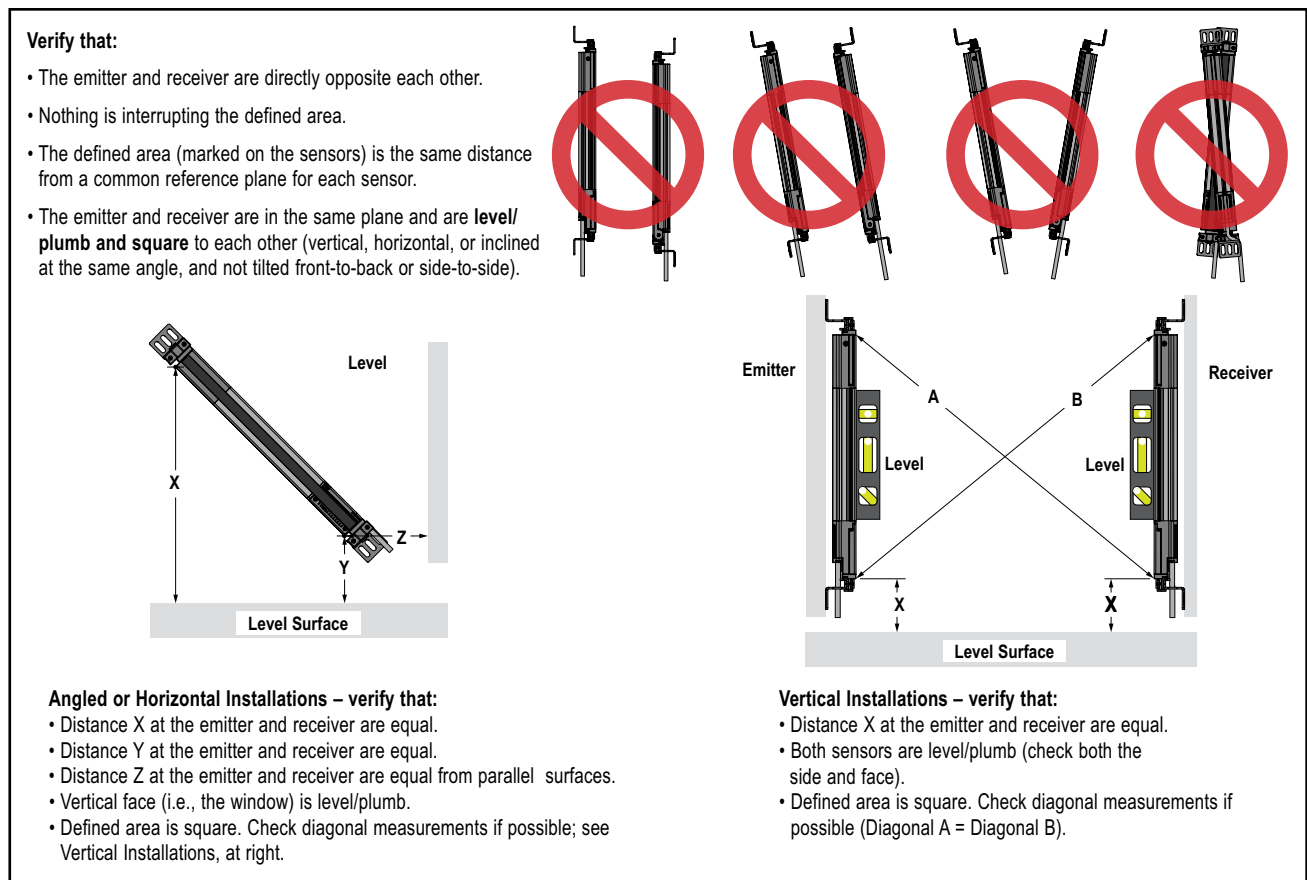

Figure 3-11. Sensor mounting, mechanical alignment
3. Position the emitter and receiver in their brackets, as shown in Figure 3-11. Loosely attach the front bracket plate to the bracket, at each end.
4. Verify that the sensor windows directly face each other. Measure from a reference plane (e.g., a level building floor) to the same point(s) on the emitter and receiver to verify their mechanical alignment. Use a carpenter's level, a plumb bob, or the optional LAT-1 Laser Alignment Tool (see Section 2.5) or check the diagonal distances between the sensors, to achieve mechanical alignment; see Figure 3-11. Final alignment procedures are explained in Section 3.4.
4. Position the emitter and receiver windows directly facing each other. Measure from a reference plane (e.g., a level building floor) to the same point(s) on the emitter and receiver to verify their mechanical alignment. Use a carpenter's level, a plumb bob, or the optional LAT-1 Laser Alignment Tool (see Section 2.5) or check the diagonal distances between the sensors, to achieve mechanical alignment; see Figure 3-11. Final alignment procedures are explained in Section 3.4.